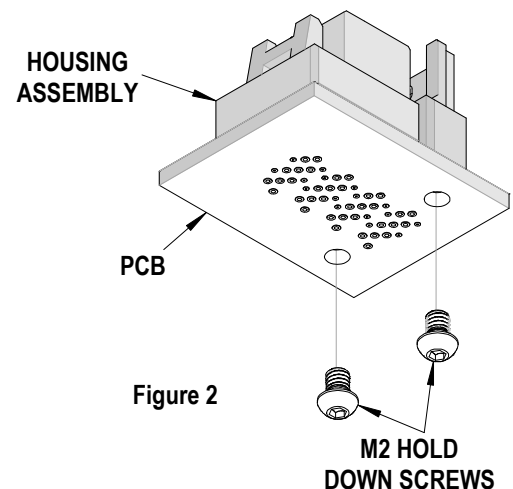

Figure 2
Holding the housing assembly to the printed circuit board from underneath are (2) M2 hold down screws. Before any removal operation is done these M2 hold down screws must be removed. See Figure 2.